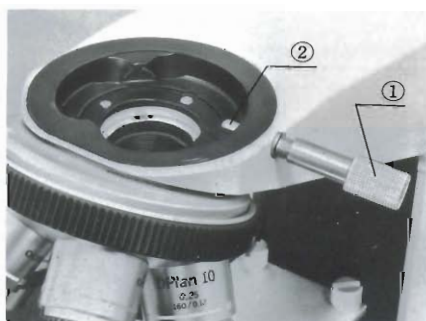

Fig. 3
- 1) Loosen the clamping knob ① fully. Pull spring-loaded clamping knob ①. This will cause the locating pin ② to withdraw. (Fig. 3) If the pin does not, loosen the screw further until the pin withdraws.
- 2) With clamping knob ① pulled out, insert the circular dovetail of the observation tube into the ring dovetail.